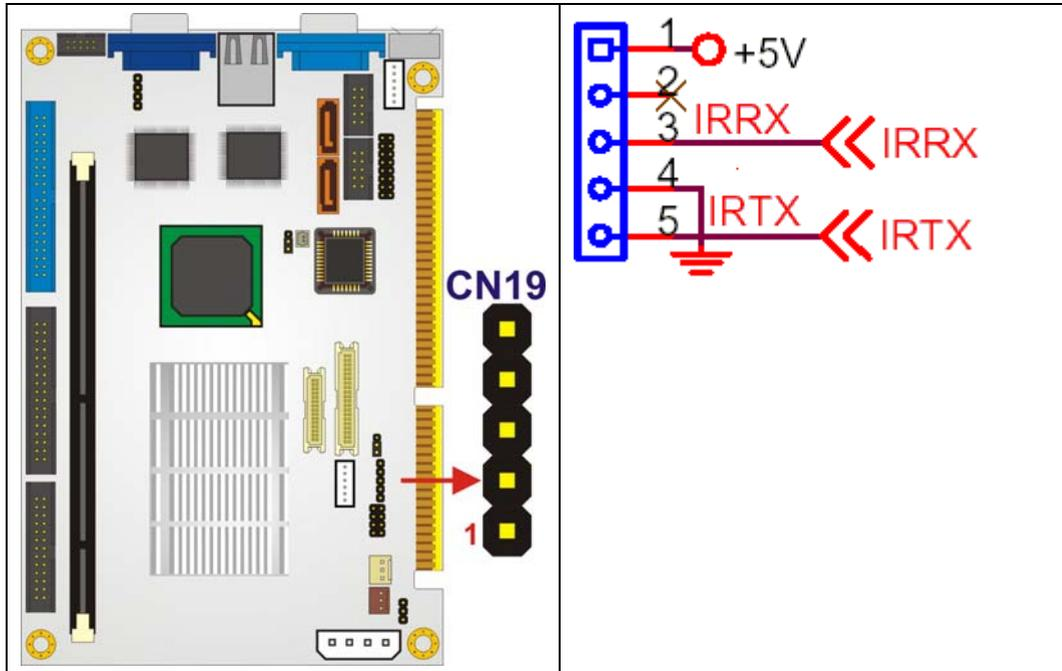

Figure 4-15: Infrared Connector Pinout Locations
- CN Location:** See Figure 4-15